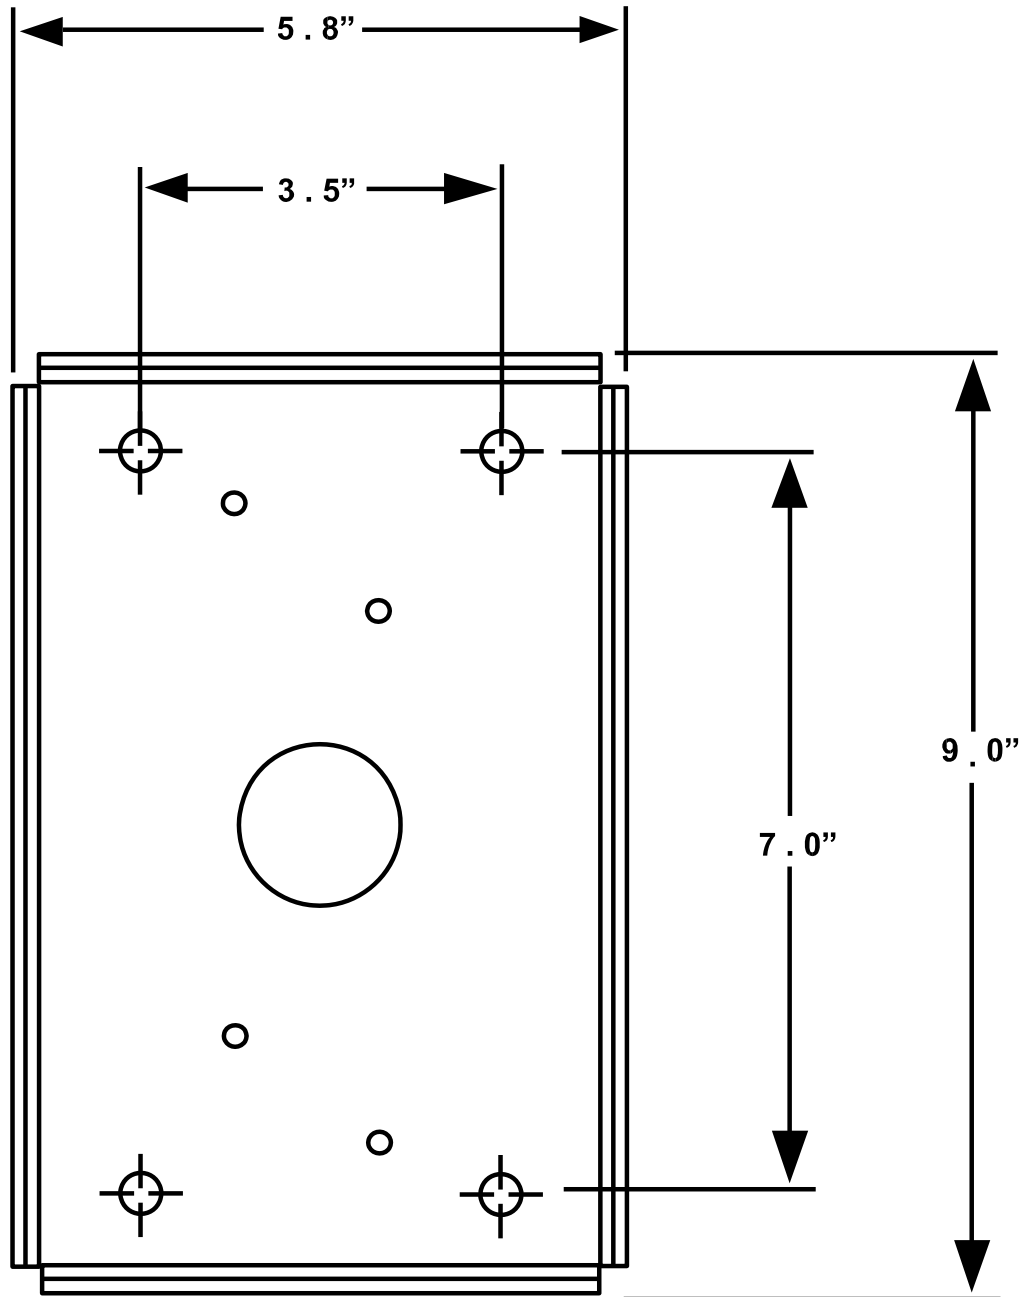

Figure 1 – L2 PowerPost® EVSE Footprint & Mounting Hole Locations
- ✓ Four concrete anchors with tensile strength of 450 lbs or more. (See Figure 1 for spacing)